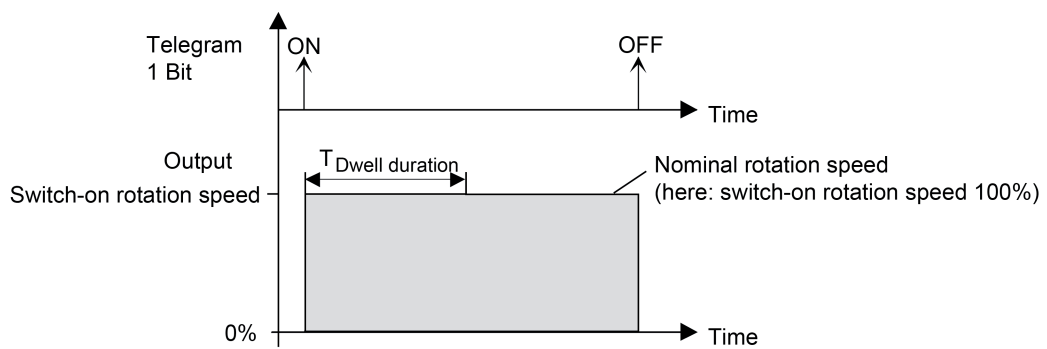
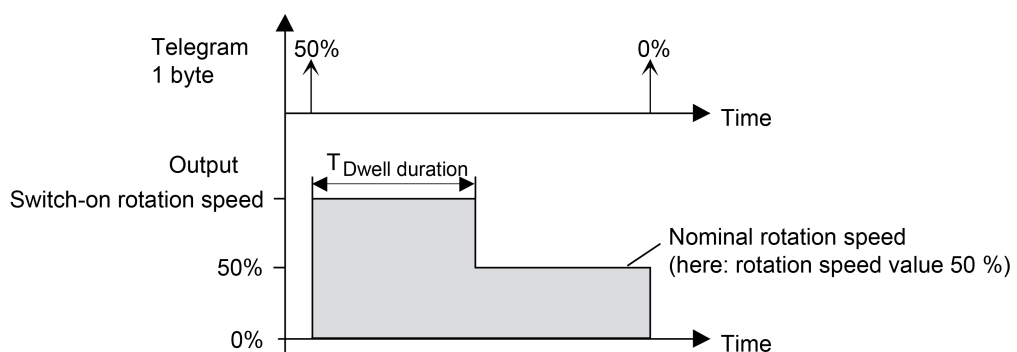

Figure 41: Cutting-in speed and required speed for switching commands
Figure 42: Cutting-in speed and required speed for value commands
**i** Required speed: The required speed results directly from switching commands via switching telegrams or via the manual operation. The required speed is then the cutting-in speed (Figure 41). Alternatively, the required speed is specified immediately via telegrams to the speed object or via speed specifications of the scene function or disabling and forced position functions (Figure 42).